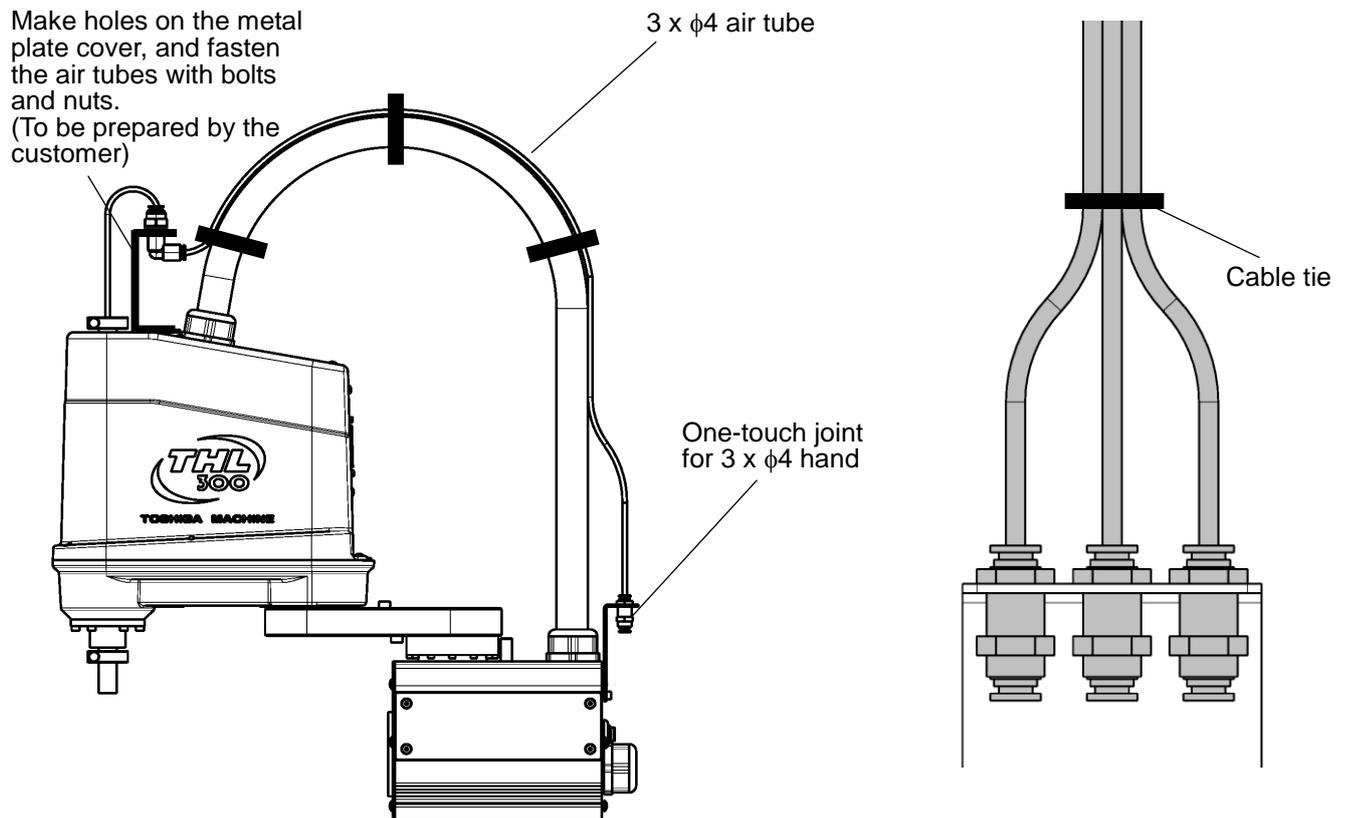

Fig. 16.2 Tool air piping wiring example (THL300 and THL400)
Fig. 16.2 shows an installation example of tool air piping for your reference.
- Please be aware that Fig. 16.2 shows a piping example, and it does not guarantee the air tubes and their accessories to be free from damage.